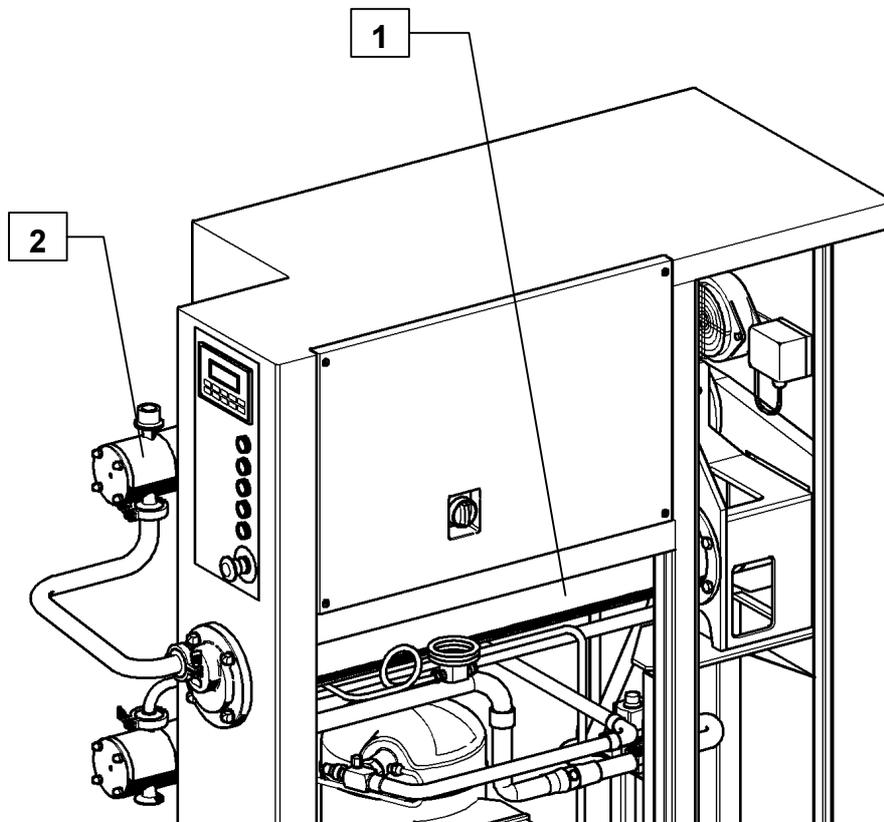

Fig. 3-3 – Freezing cylinder
The freezing cylinder (Fig. 3-3 pos. 1) placed in the machine, provides to batch the mixture supplied by the customer with sanitary air introduced in the machine, and to freeze the whole new mixture to obtain a type of ice cream coming out of the pump (Fig. 3-3 pos. 2) that complies with the temperature and viscosity values required. It is positioned horizontally inside the machine: it is made by a thick layer chrome plated pipe with interspace and by a whipping shaft.